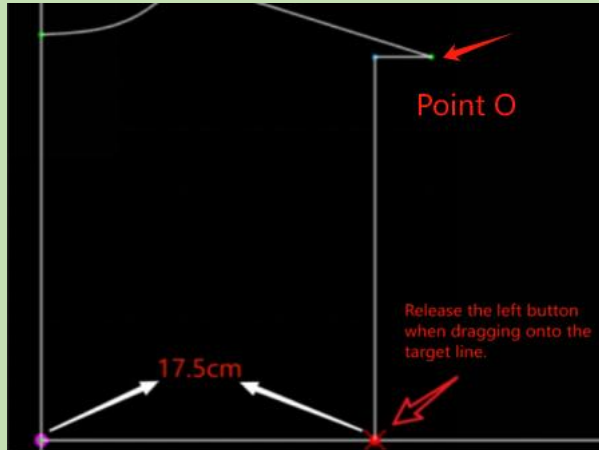

Figure4-32
1.Start from the known point O, hold down the left mouse button and drag the mouse to a point or line. ( Figure4-32 )